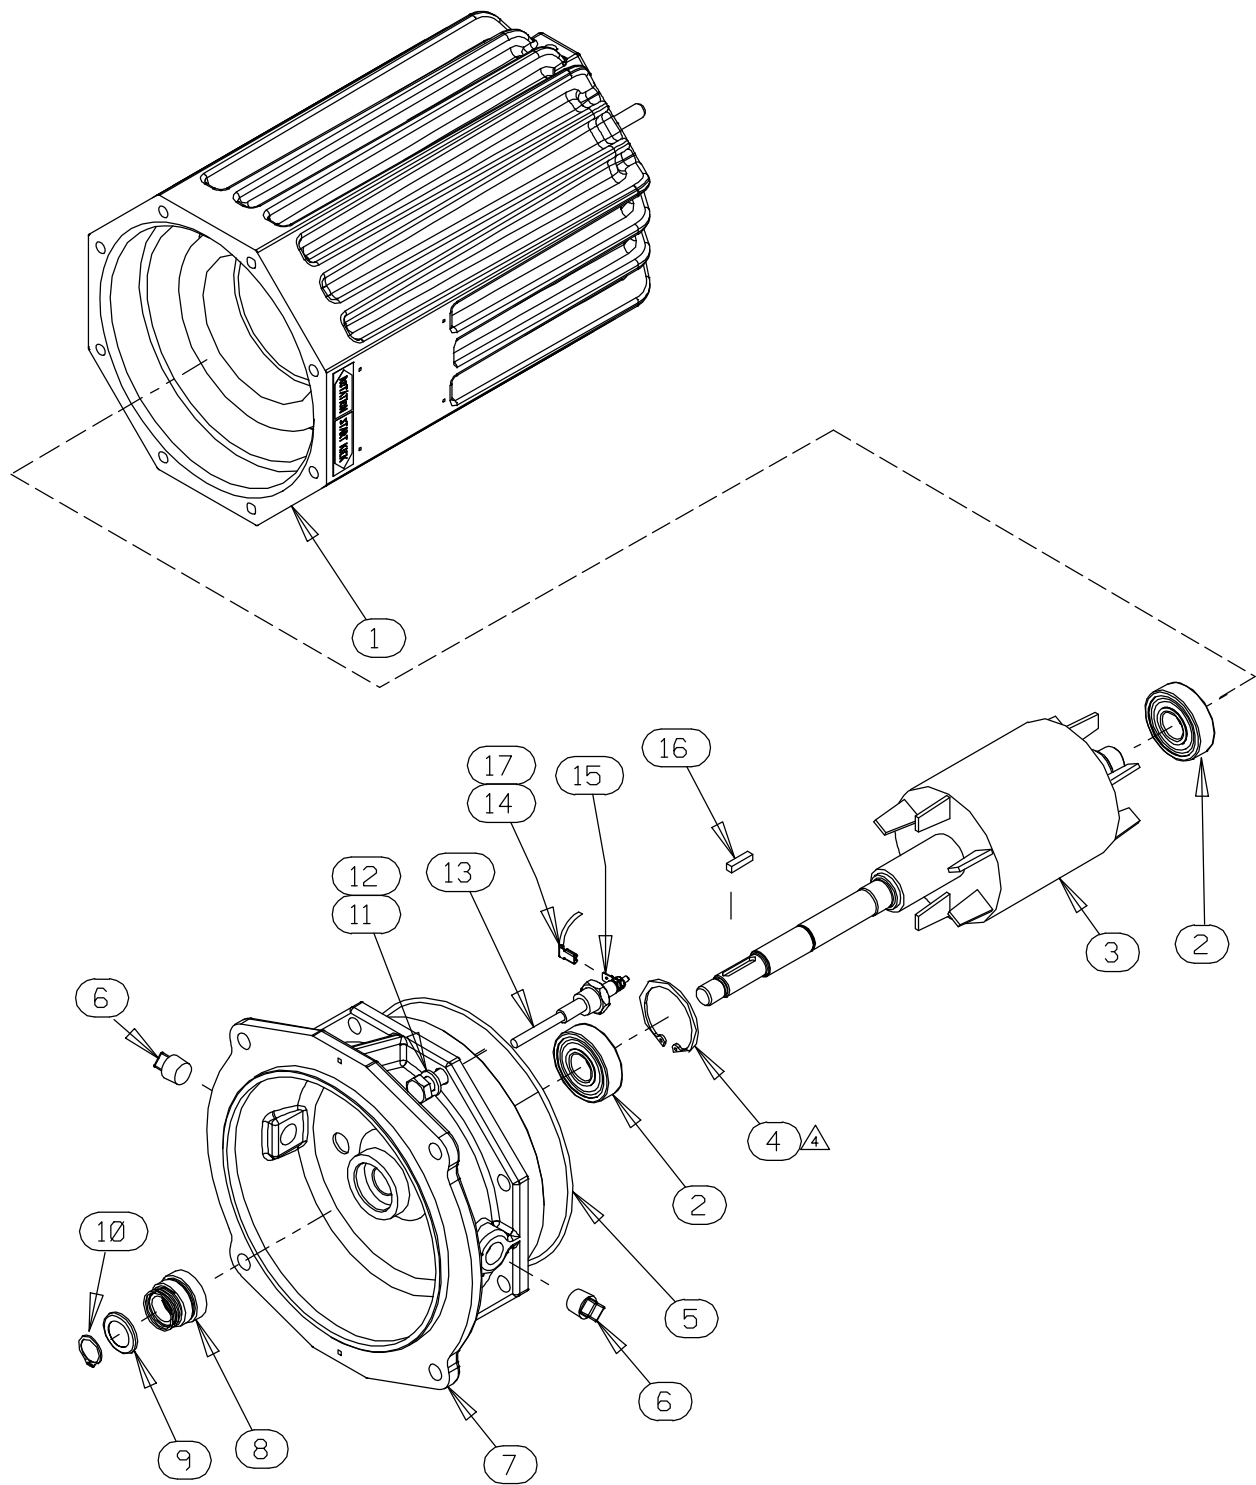

Figure E-2. 47111-801, -804 and -805 Motor Assemblies
#### **(Figure E-2)**
To remove the impeller, use two thin-bladed screwdrivers positioned 180° apart to pry on the back of the impeller and “walk” the impeller off the shaft. Use increasingly larger screwdrivers (or wedges) as necessary. After the impeller comes free of the shaft, retain the impeller key (17, Figure E-2).
*An alternate method of removing the stationary element is to remove the screws (16) securing the seal plate (14) to the motor assembly (7). Pry the assembled seal plate and stationary element off the shoulder of the intermediate (7, Figure E-2). Remove the O-ring (6) and press the stationary element and seat out of the seal plate from the back side.*
### Upper Seal Removal (Figures E-2 and E-3)